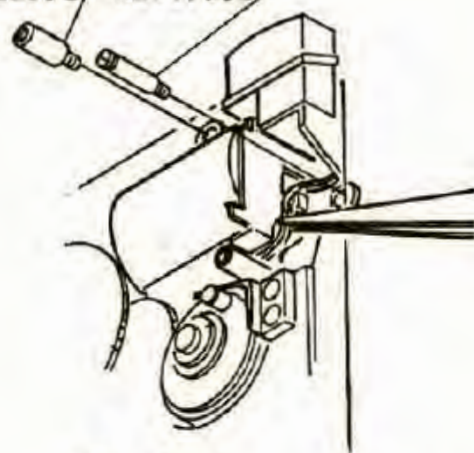

Fig. 91-1
- a. Remove SLS11551 and SLT17931 Screws as shown in the Fig. 91-1.
d. Put in order brown and white lead wires as shown in the Fig. 91-1 and do not make it touching to the release bar.